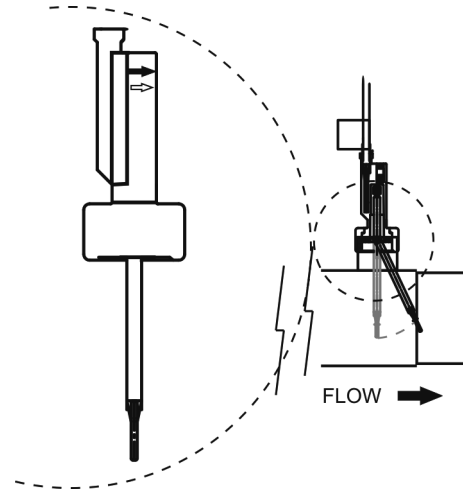

Fig. 11b
3. There is an arrow on the head of the flow detector. Make sure that this arrow is parallel to the pipe shaft and pointing in the direction that the water flows (Fig. 11b).